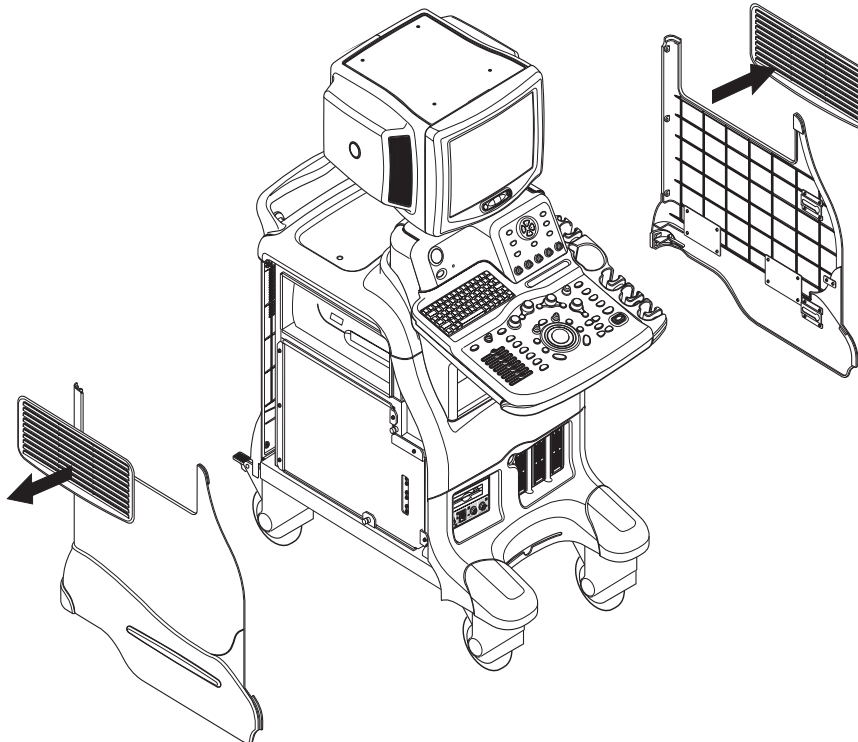

Figure 8-63 Removing Side Caps
- 4.) Pull the Side Cap upward from the Right Cover. Refer to Figure 8-63.